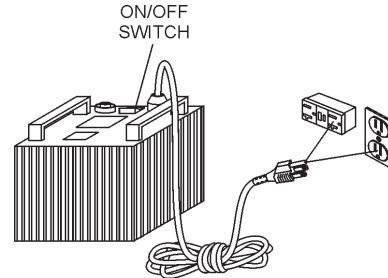

Figure 10. Applying Power
- Plug the power cable (Figure 10) from the ballast into a 110V/60 Hz power source. Next, turn the ON/OFF switch on the ballast to the ON position to turn on lamp. The lamp should flicker for a few minutes as the internal gases warm up. It should reach full power within 4 minutes.